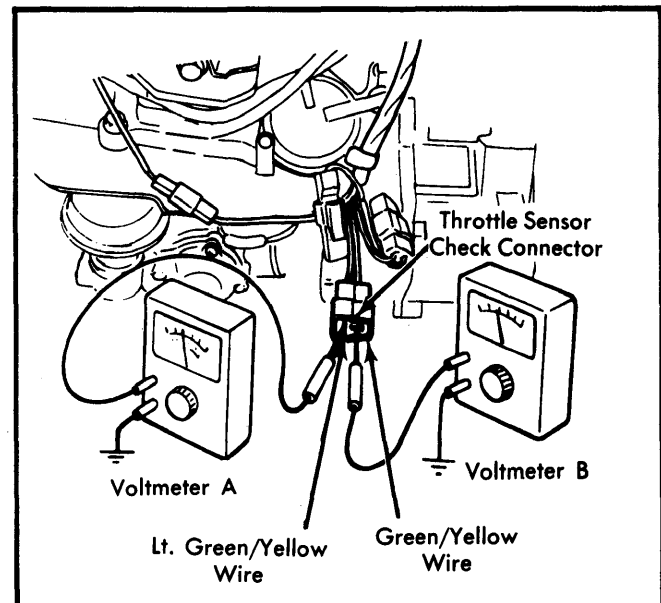

Fig. 2 Testing Throttle Sensor
2) Using 2 voltmeters, connect positive lead of voltmeter to Light Green/Yellow wire terminal of throttle sensor check connector and connect positive lead of other voltmeter to Green/Yellow wire terminal of throttle sensor connector. Connect negative terminals of both voltmeters to good ground. See Fig. 2.
4) Adjust timing of current flow to voltmeter "A" in Fig. 2 by turning throttle sensor adjusting screw. Turning screw in causes current to flow to Light Green/Yellow wire at higher engine speed. Turning screw out causes current to flow to Light Green/Yellow wire at lower engine speed. After adjustment, install cap on throttle sensor adjusting screw and retest throttle sensor.